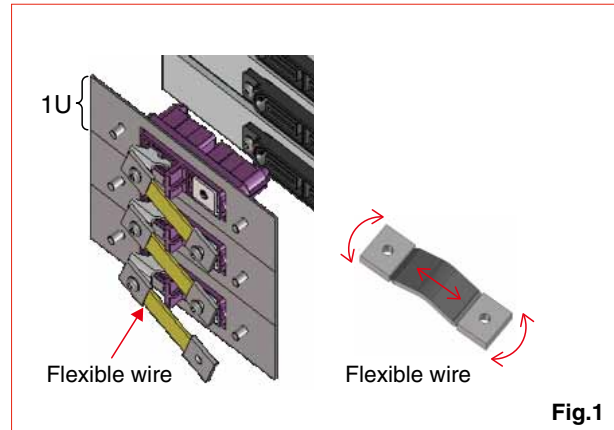

Fig.1
2. The unique blade contacts help to create a slim design and allows it to be utilized in a standard 1U rack size (44.5mm × 482.6mm). (Fig.1)
Connector floating is allowed by using flexible wire without missing flexibility in short distant wiring between 1U connection. (Fig.1, 2)